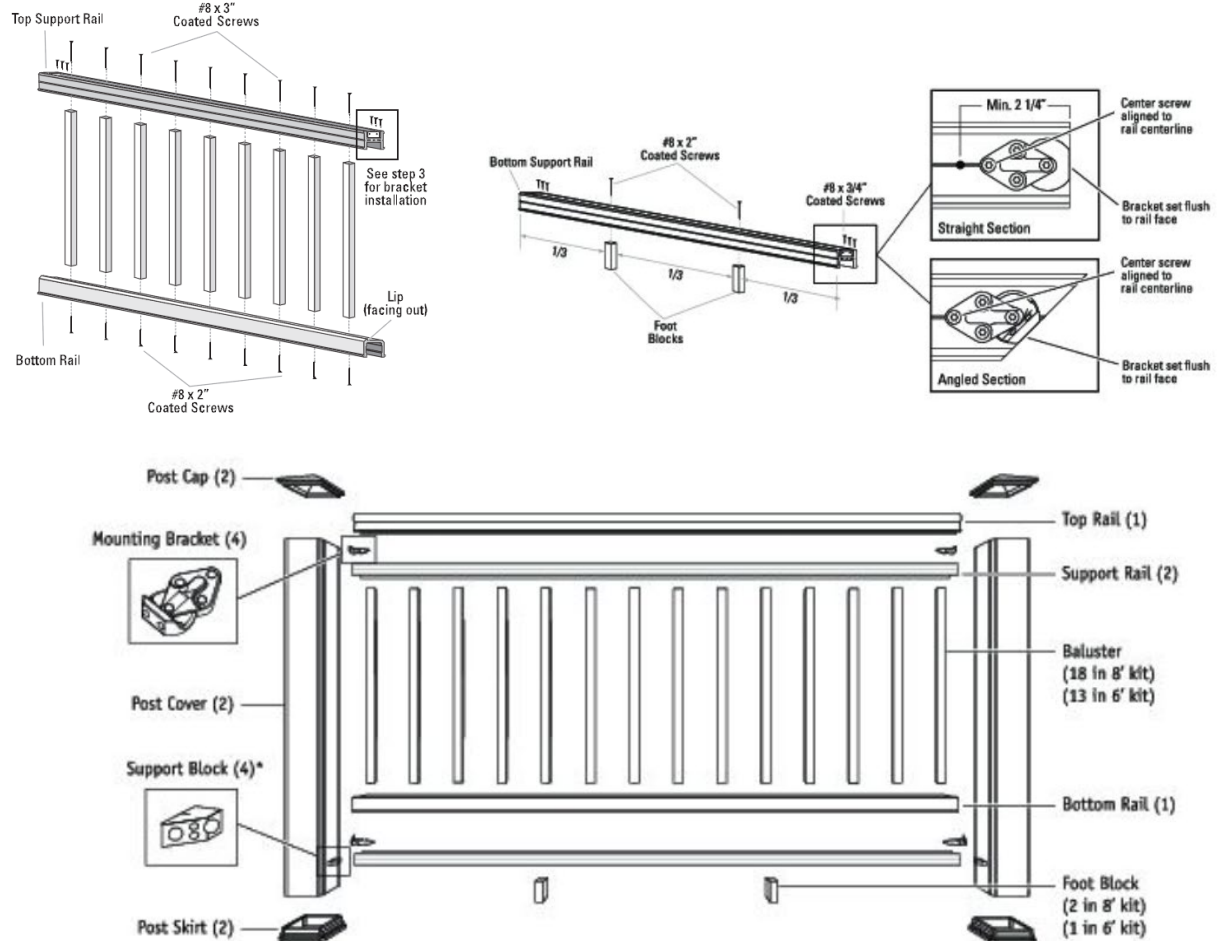

FIGURE 14 – TIMBERTECH® RADIANCERAIL® AND AZEK TRADEMARK, PREMIER, AND RESERVE
5.2.1 Foot blocks are a section of nominal 1.2" square extruded composite picket with an expanded PVC core to facilitate fastening. Foot blocks shall be installed at approximate 1/3 intervals for rails over six feet in length or at mid-span for rails less than six feet in length of the bottom guard between the deck surface and the guard. See Table 3 and Figures 14 through 19.